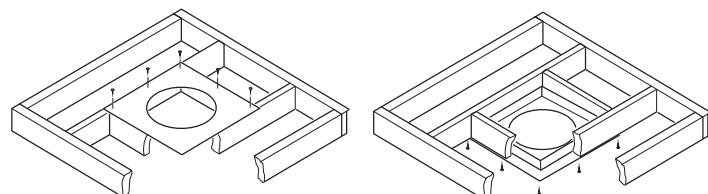

Figure 20 - Installing Firestop
1. Cut a 10 3/4" square hole in the ceiling using the locating hole as a center point. The opening should be framed to 10 3/4" x 10 3/4" (273mm x 273mm) inside dimensions, as shown in Figure 9 on page 8 using framing lumber the same size as the ceiling joists. If the area above the ceiling is an insulated ceiling or a room, nail firestop from the top side. This prevents loose insulation from falling into the required clearance space. Otherwise, install firestop below the framed hole. The firestop should be installed with no less than three nails per side (see Figure 20).